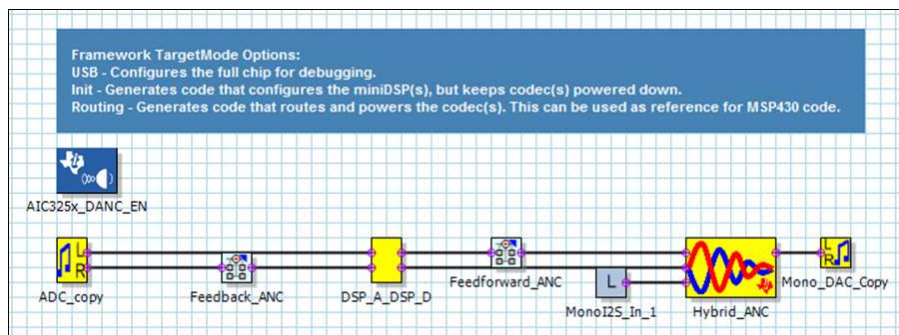

Figure 4. Generic DANC Chip Process Flow
10. In the other PurePath instance open the desired **DANC** process flow (for example, ATHY1-DNC-24.0000-B-HY-LOWPWR_CASCADE). It should look something similar to Figure 4.